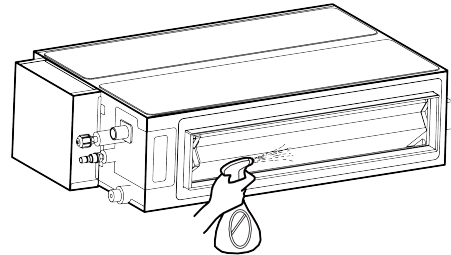

Fig 4.19
- 2) Spray 1L water on evaporator with sprayer, as shown in Fig 4.19